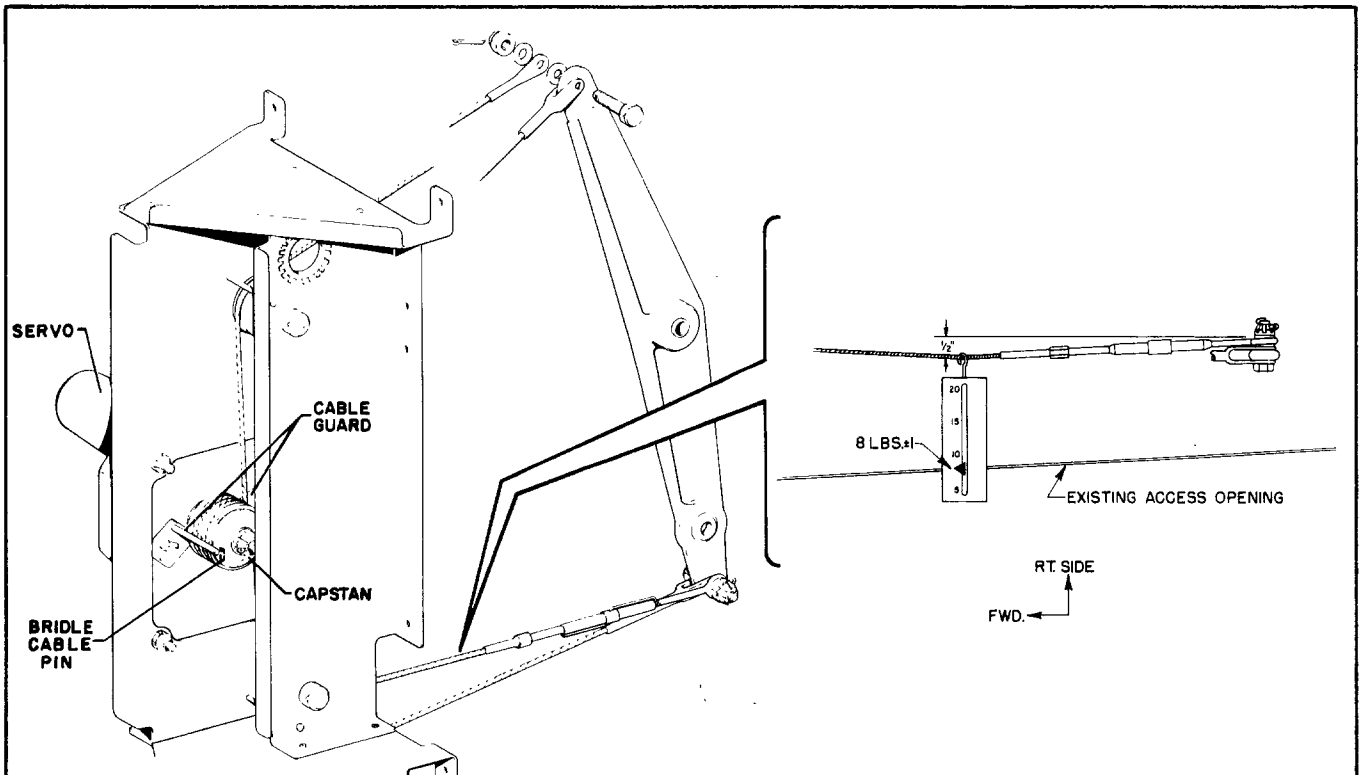

Figure 3-23. Pitch Servo Installation, PA-31-310, PA-31-325, PA-31-350 and PA-31P
**3-48. INSTALLATION OF PITCH SERVO. (PA-31-310, PA-31-325, PA-31-350 and PA-31P) (Refer to Figure 3-23.)**
- e. REFER TO FIGURE 3-9 AND CHECK THAT THE ELEVATOR CABLE TENSION (X) FORWARD OF THE BELLCRANK IS ADJUSTED TO  $20 \pm 2$  POUNDS PRIOR TO ATTACHING THE BRIDLE CABLE TO THE BELLCRANK. Attach the bridle cable to the bellcrank. The bridle cable is drawn around pulleys and installed over both the upper and lower bolts in the bellcrank. The end of the bridle cable with the turnbuckle should be attached to the lower arm of the bellcrank. Secure bridle cable to bellcrank with nut and cotter pin previously removed. With the elevator controls in neutral POSITION align the bridle cable pin installed in the capstan as shown in Figure 3-23. Adjust the turnbuckle until a deflection of 1/2 inch at the midpoint between turnbuckle and bulkhead (sta. 317.75) will produce 8 lbs.  $\pm$  1. (Pull on fish scale or equivalent as shown in fig. 3-23.) Safety the bridle cable turnbuckle.